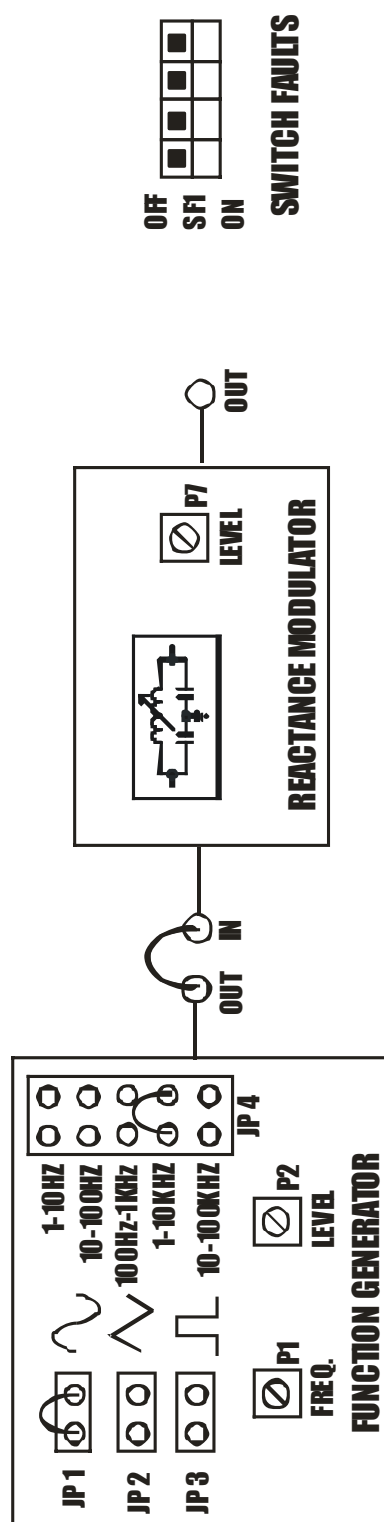

FIG. 1.12 BLOCK DIAGRAM FOR STUDY OF REACTANCE MODULATOR
- Refer the block diagram Fig.1.12 and carry out the connections as per the block diagram.